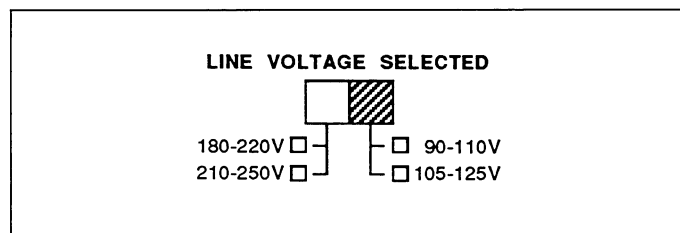

Figure 6-1. Line Voltage Switch
The Model 707 can be operated from either 105-125V or 210-250V, 50 or 60Hz sources. It can be rewired at the factory for the 90-110V and 180-220V ranges. The unit was shipped from the factory set for the operating voltage that corresponds to the one normally available in your area. The appropriate box on the rear panel (see Figure 6-1) is marked to indicate this range. The position of the switch indicates the selected line voltage. To change the line voltage proceed as follows.
1. Locate the line voltage switch on the rear panel. Referring to Figure 6-1, place the switch in the correct position: to the right for low line voltage (90 to 125V) or to the left for high line voltage (180 to 250V).